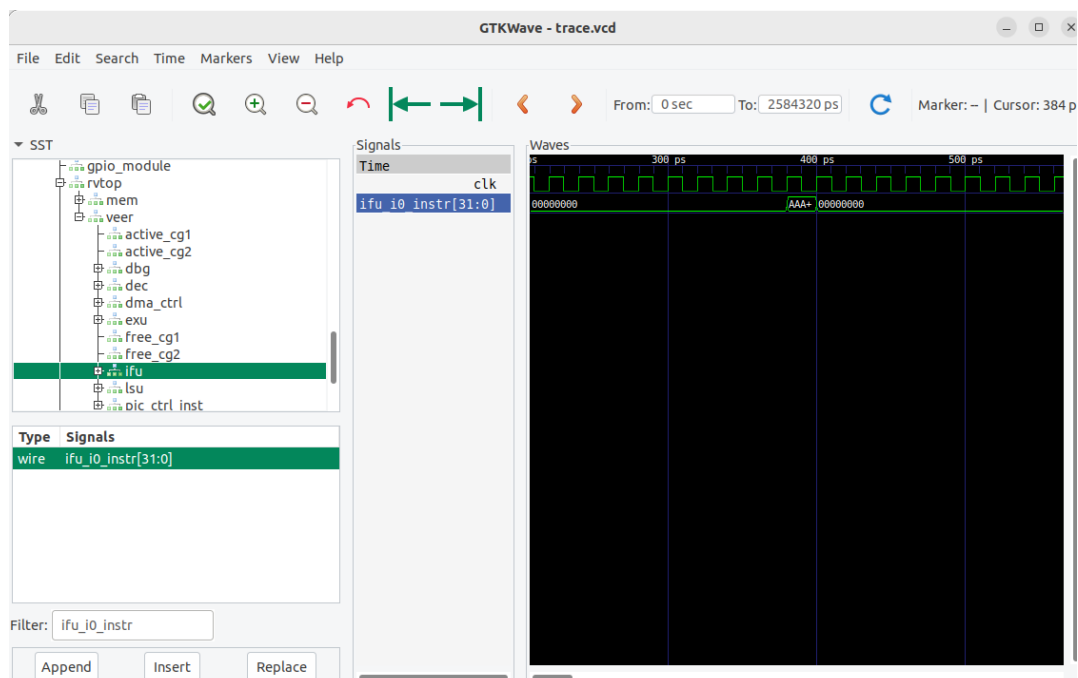

Figure 69. Add signal `ifu_i0_instr[31:0]` to the timing waveform
- Now add the signals that show the instruction that executes in the RISC-V core. In the same module (**ifu**) look for signal **ifu_i0_instr[31:0]** (Figure 69), and drag it into the black Waves pane. The prefix **ifu** indicates the instruction fetch unit and **instr[31:0]** indicates the 32-bit instruction.